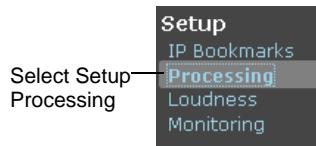

Figure 3-1 Select Processing in the Setup Menu
1. Select **Processing** in the **Setup** menu, as shown in Figure 3-1.